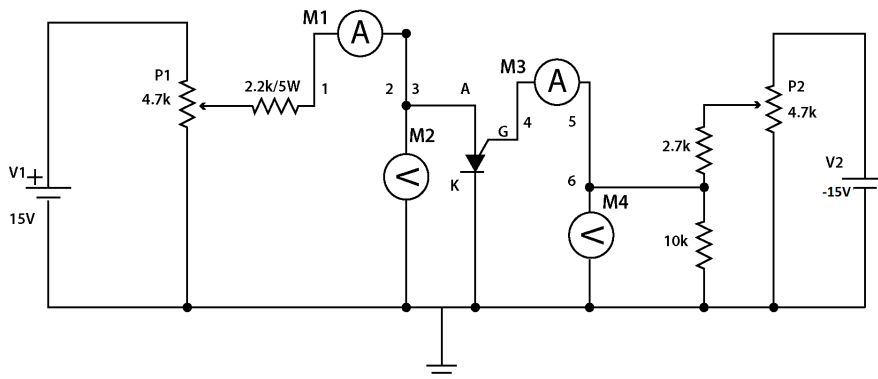

Figure 8
1. Connect the circuit, as shown in Figure 8, using patch cords.